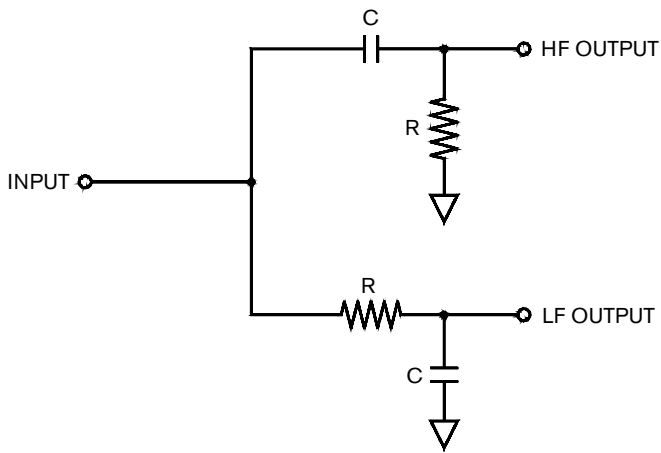

Figure 1. 1st order crossover network
We use these facts to create a crossover network. Figure 1 shows such a circuit. By interchanging the positions of the resistor and capacitor, low-pass (low frequencies = LF) and high-pass (high frequencies = HF) filters result. For the low-pass case (LF), the capacitor ignores low frequencies and shunts all high frequencies to ground. For the high-pass case (HF), the opposite occurs. All low frequencies are blocked and only high frequencies are passed.